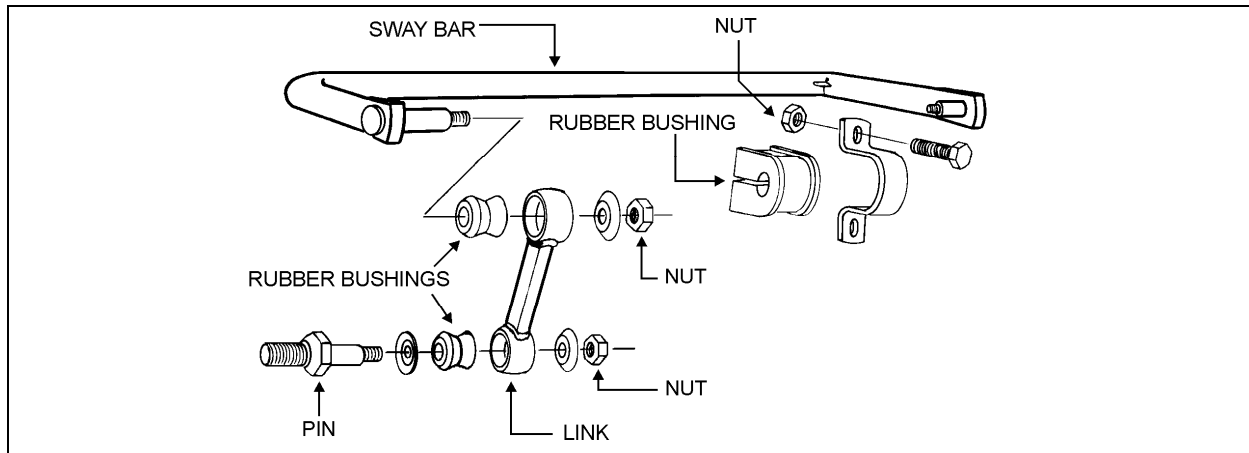

FIGURE 11: FRONT & DRIVE AXLE SWAY BAR
A sway bar is provided on the front and drive axles to increase vehicle stability. It controls lateral motion (swaying movement) of vehicle (Fig. 11).
2. Tighten the eight bushing collar nuts according to Torque Table under heading Torque Specifications (Fig. 11).
3. Tighten sway bar link upper nuts and lower nuts according to Torque Table under heading Torque Specifications (Fig. 11).